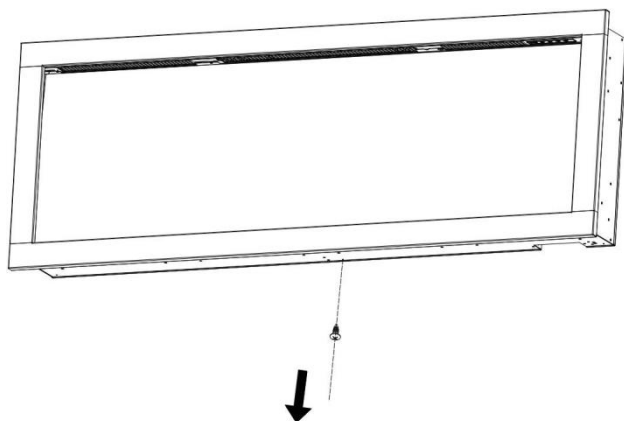

Fig. 4-1
- A. Remove the silver screw at the bottom of the appliance. (Fig. 4-1) Set the screw aside.